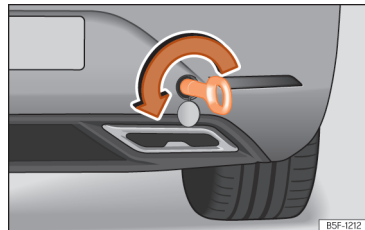

Fig. 214 Right side of the rear bumper: towline anchorage screwed in.
- Screw the towing eye in the housing by turning it to the maximum **anticlockwise** »» Fig. 214 , »» ⓘ. Use a suitable object that can completely and securely tighten the towing eye in its housing.